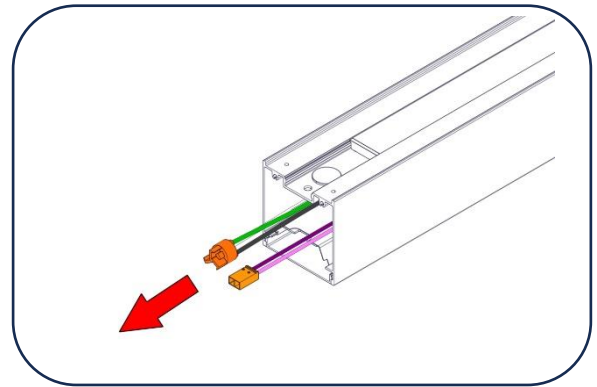

Figure 2
2. Carefully pull the available length of **Driver Harness** wires out of Side A. [Figure 2]